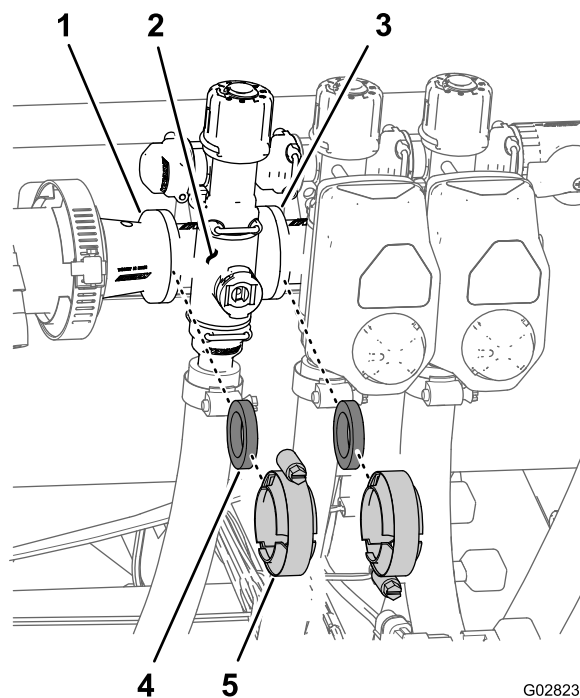

Figure 108
1. Remove clamps and gaskets that secure the manifold for the section valve (Figure 108) to the adjacent section valve (if left, section valve and reducer coupling).